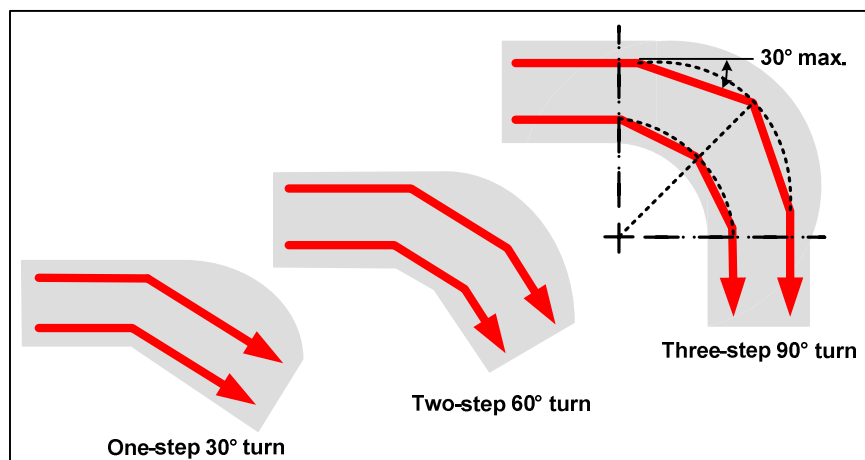

Figure 6.15 - Making Sensor Cable Corners with 30° Step Turns
Another method to turn sensor cables around corners is to take short step turns. Depending on the turning space available, step turns of up to 30° can be taken, as shown in Figure 6.15.
The step turn is similar to the arc except that it has three (3) equal length sections. Another easy way to layout a three step turn is to stake-out a 90° radius turn and then divide the quadrant in half, as shown in Figure 6.15. Straight lines can then be drawn between the two halves which represent the first and second 30° steps.